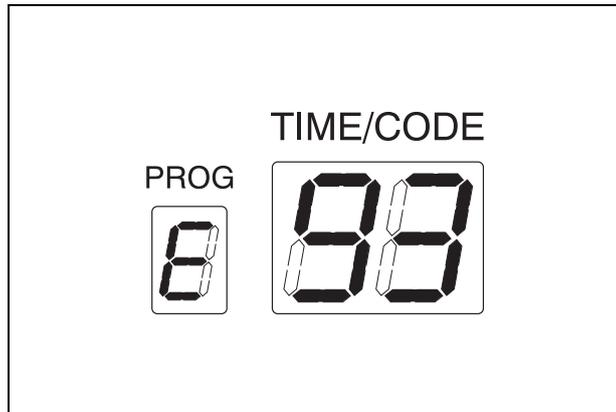

Figure 7.94
7. Remove alcohol from inside the line by performing the alcohol flush process on the subcontrol panel. Check that the fluids are drained from the cap. Wait until the error code [E93] is displayed and the process ends (see Figure 7.94).